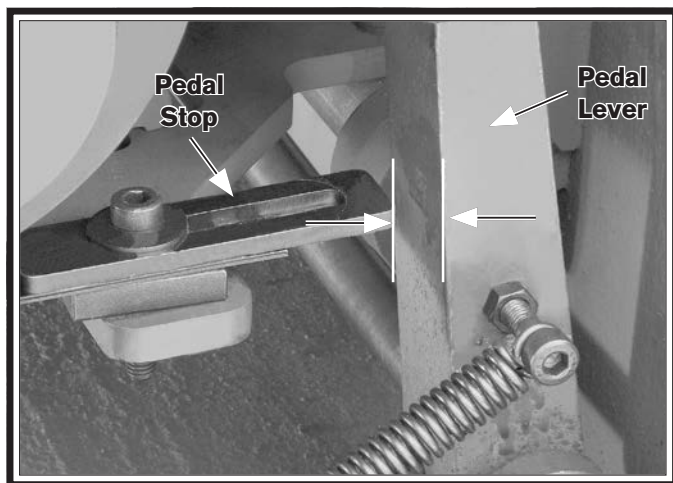

Figure 126. Brake pedal travel adjustment.
8. Tap the pedal stop into position so there is approximately a 25mm gap between the pedal lever and the stop (see **Figure 126**), then firmly tighten the pedal stop cap screw.